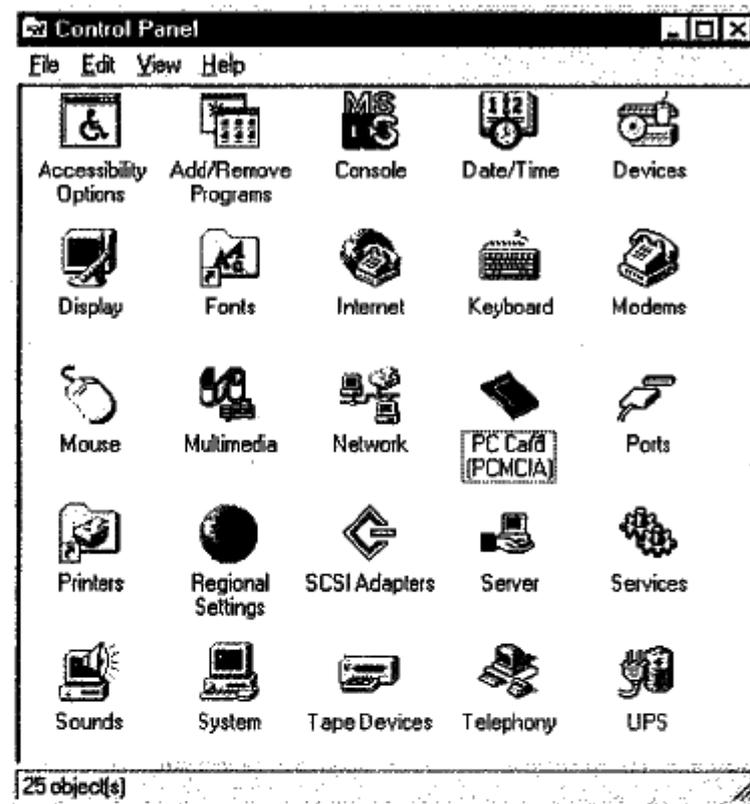

Figure 3-16
- 3-1 Click the "Start" button, select "Settings" and then click "Control Panel" as shown in Figure 3-16.